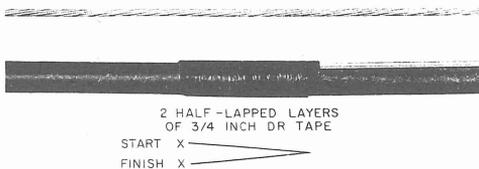

Fig. 47—DR Tape Placed Over Sealing Tape
- (h) Apply two half-lapped layers of 3/4-inch DR tape over the cemented area and the B sealing tape. In applying the tape, it should be stretched to 5/8-inch width (Fig. 47).